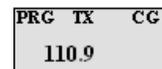

Figure 10
12. LCD will display "PRGTXCG 110.9" for programming **TX Code Guard**. (See Figure 10) Press the "CLR" key to clear the current tone and enter a valid tone using the keypad and press the "ENT" key.